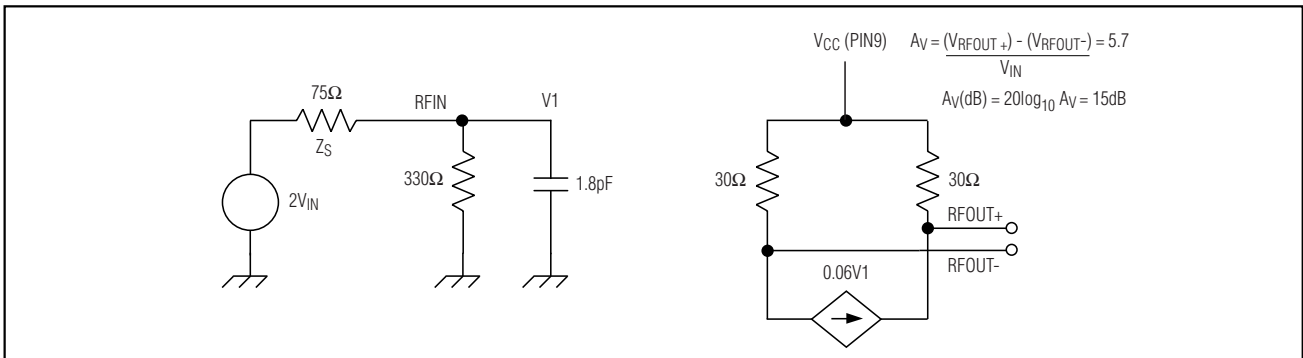

Figure 2. LNA Equivalent Circuit and Open-Circuit Voltage Gain Calculation
**Note 5:** Corresponding voltage gain at RL = 3kΩ, calculated as in Figure 2.
The low-noise amplifier operates from 44MHz to 880MHz and is designed specifically for cable TV and cable modem applications. The LNA provides 15dB of insertion voltage gain (see Figure 2) when driving a
The LNA input is single-ended. The RF input signal is coupled to RFIN through a DC blocking capacitor. The LNA outputs drive a differential load, such as a mixer, through DC blocking capacitors. The equivalent input LNA impedance is  $330\Omega$  resistive in parallel with  $1.8\text{pf}$ , as shown in Figure 2. The approximate equivalent differential output impedance of the LNA is  $60\Omega$ . To achieve  $S_{11}$  less than  $-6\text{dB}$ , an insertion loss of greater than  $1\text{dB}$  must exist between the cable input and MAX3524. This loss typically comes from a diplexer and PIN attenuator in a cable modem application. A shunt resistor may be added at the input of the LNA to improve the return loss ( $S_{11}$ ). Typically the return loss of the system is  $2\text{dB}$  better, as explained above. The  $S_{11}$  and noise-figure values for different shunt resistors are given in Table 1.